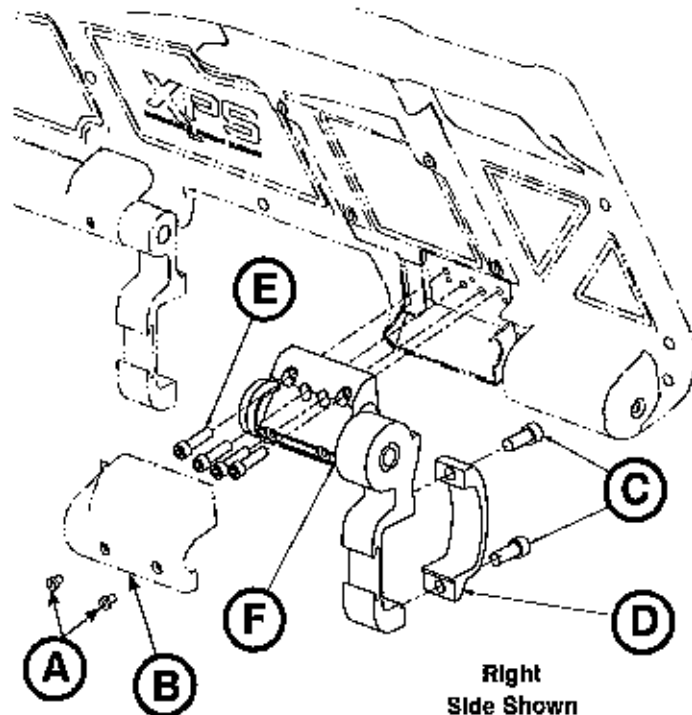

Figure 120
3. Using a 3/32" hex wrench, remove the two screws (A) that secure the ratchet cover (B) to the ratchet assembly. Remove the cover (Figure 120).
4. Using a 1/4" hex wrench, remove the socket head cap screws (C) that secure the siderail clamp (D) to the ratchet assembly at the foot end of the main assembly (Figure 120). During installation, torque both new screws to 22 ± 3.3 ft-lb.
5. Using a 3/16" hex wrench, remove the four screws (E) that secure the ratchet assembly (F) to the overmold assembly and discard, then remove the ratchet assembly (Figure 120). During installation, torque the four new screws to 9.5 ± 1.5 ft-lb.